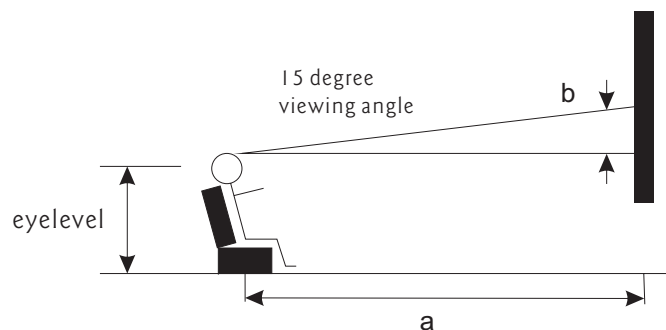

Fig 2a
- 1) the distance between wall and couch(Fig 2a).
- 2) the distance of eyelevel from ground level plus the distance measured from eyelevel of a person sitting on couch with viewing angle of 15° (Fig 2a).